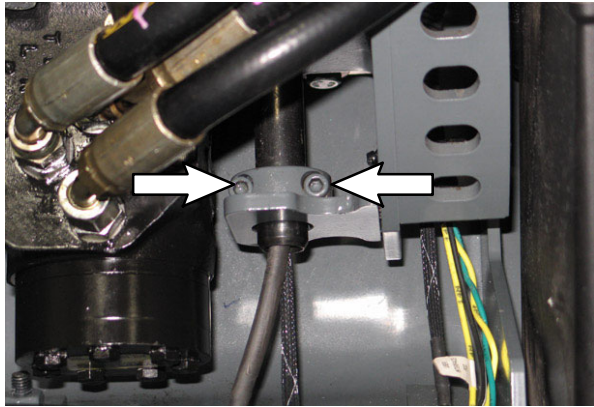
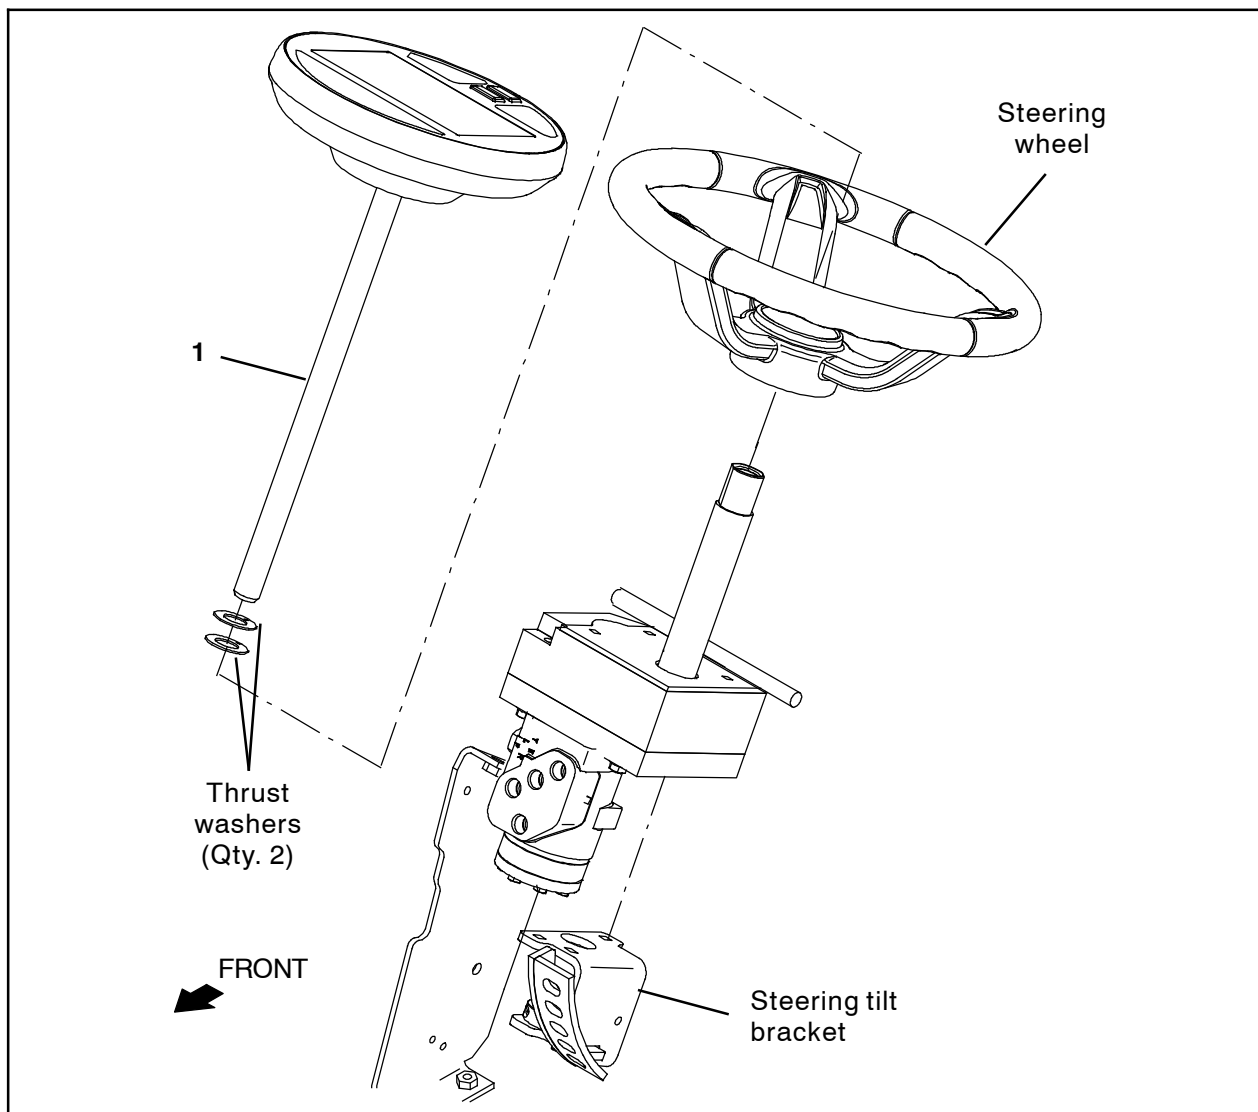

FIG. 2
FIG. 3
2. Loosen the socket screws (Qty. 2) securing the steering pod assembly into the steering tilt bracket. (Fig. 2/Fig. 3)
3. Pull the steering pod assembly out from the steering assembly. (Fig. 3)
4. Remove the two thrust washers from the steering pod assembly. Set the thrust washers aside. Discard the removed steering pod assembly. (Fig. 3)
5. Slide the thrust washers onto the new steering pod assembly (1). (Fig. 3)
6. Insert the new steering pod assembly (1) into the steering assembly. (Fig. 3)
7. Orient the steering pod assembly (1) so the display is positioned correctly in the steering wheel and tighten the two socket screws to secure the steering pod assembly into the steering tilt bracket. (Fig. 2/Fig. 3)
8. Connect the steering pod assembly (1) to the main wire harness.